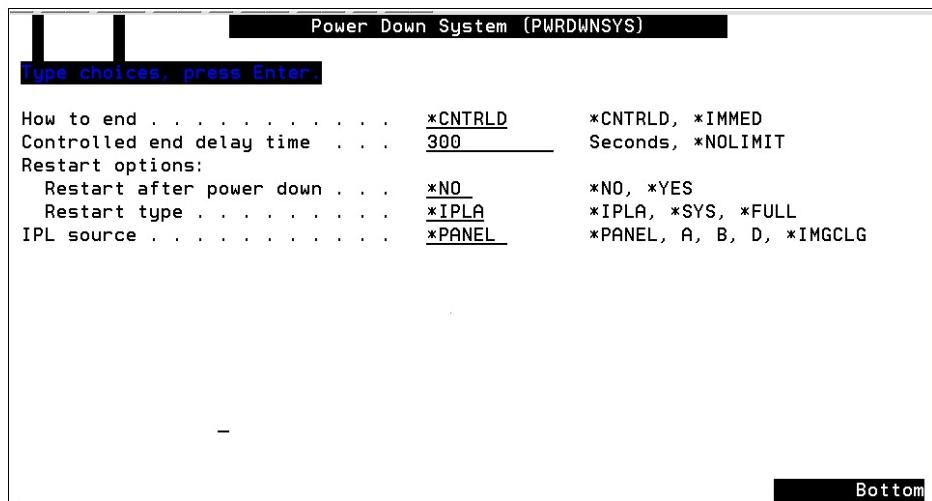

Figure 7-90 IBM i power down partition
6. Execute the command **PWRDWNSYS** in the command line, then use F4 to prompt for options as shown in Figure 7-90 on page 333. Change the *Controlled end delay time* to 300. Press enter when ready to power down the partition.